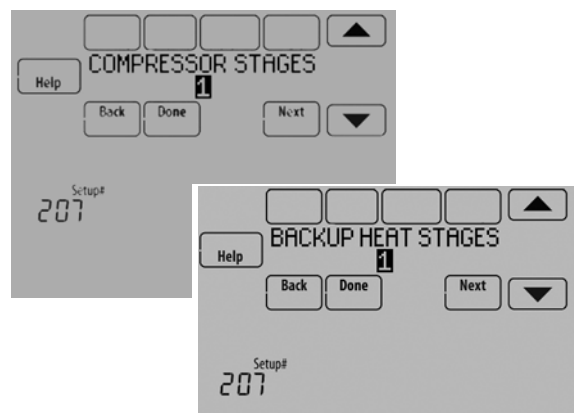

Fig. 174.
6. Select the number of Compressor and Backup Heat Stages. See Fig. 174.